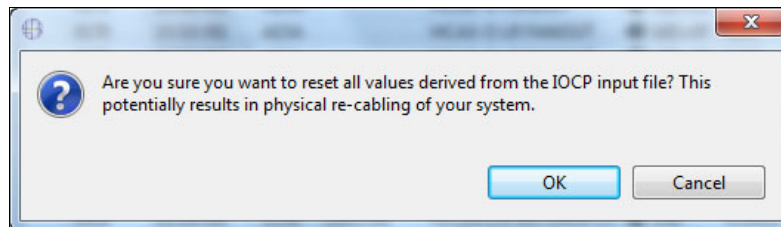

Figure 6-89 CMT - Reset CHPID assignments warning message
3. Click **OK** to confirm the reset (Figure 6-89).